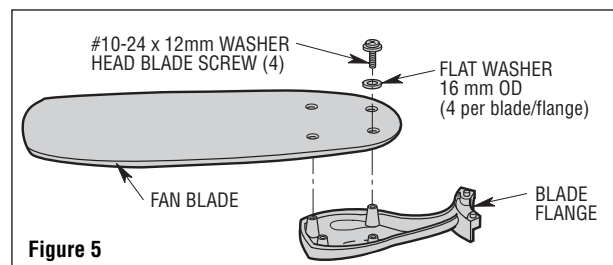

Figure 5
8. Mount blade flanges to fan blades (sold separately) using four #10-24 x 12mm washer head blade screws and four 16mm flat washers (Figure 5).